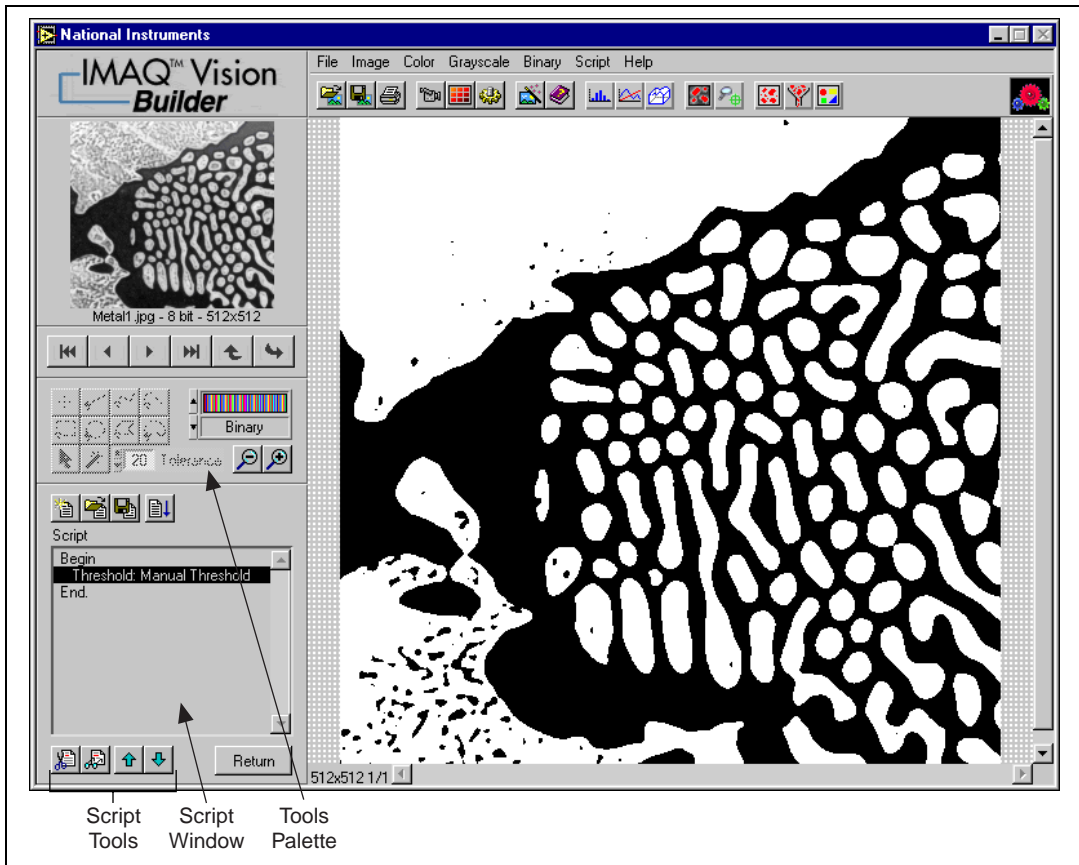

Figure 2-6. Thresholded Image
- **Script window**—Records a series of image processing steps and the settings you use for each of those steps. You can run scripts on single images or image collections (batch processing). You can modify and save scripts. See Figure 2-6 to view a script in the Script window.
- Tools palette—Displays a collection of tools for selecting regions of interest (ROI), zooming in and out, and changing the Image palette. See Figure 2-6 to view the Tools palette.
Refer to Figure 2-6 to see what the image looks like after the threshold has been applied.